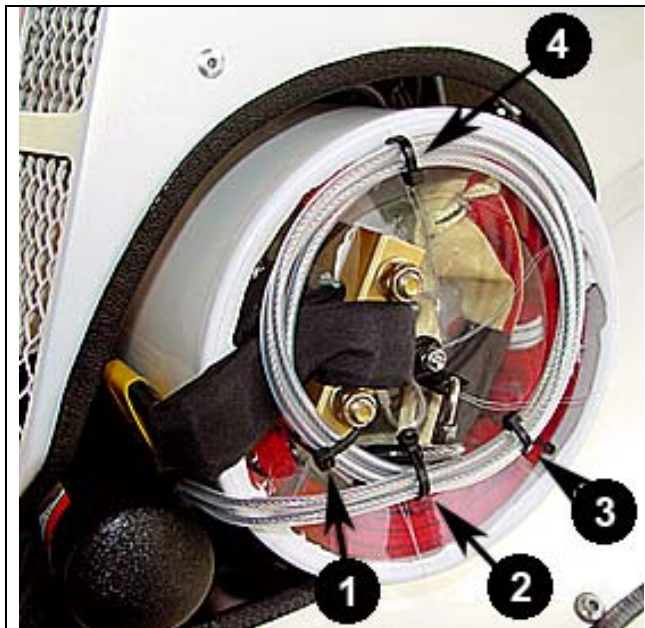
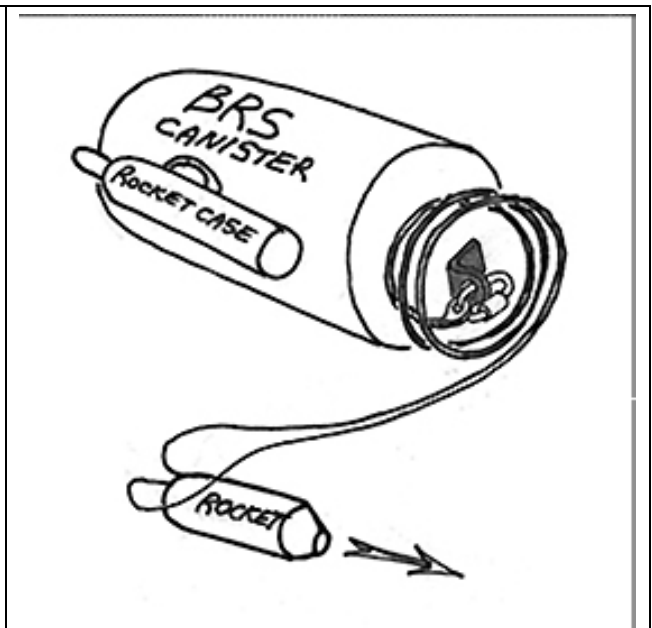

Figure 5-11
Figure 5-12
- 5.14 Lay two rocket lanyards over the canister in a spiral pattern, as pictured in Figure 5-11 and diagrammed in Figure 5-12.
5.15 Use four, small 4" Cable-ties (item 34) to secure the rocket lanyards together, as illustrated by points **1**, **2**, **3** and **4** in Figure 5-11. At the same time, secure the coiled lanyards to the bridle clamp (**1** on Figure 5-11) and to the Link (**2** on Figure 5-11).